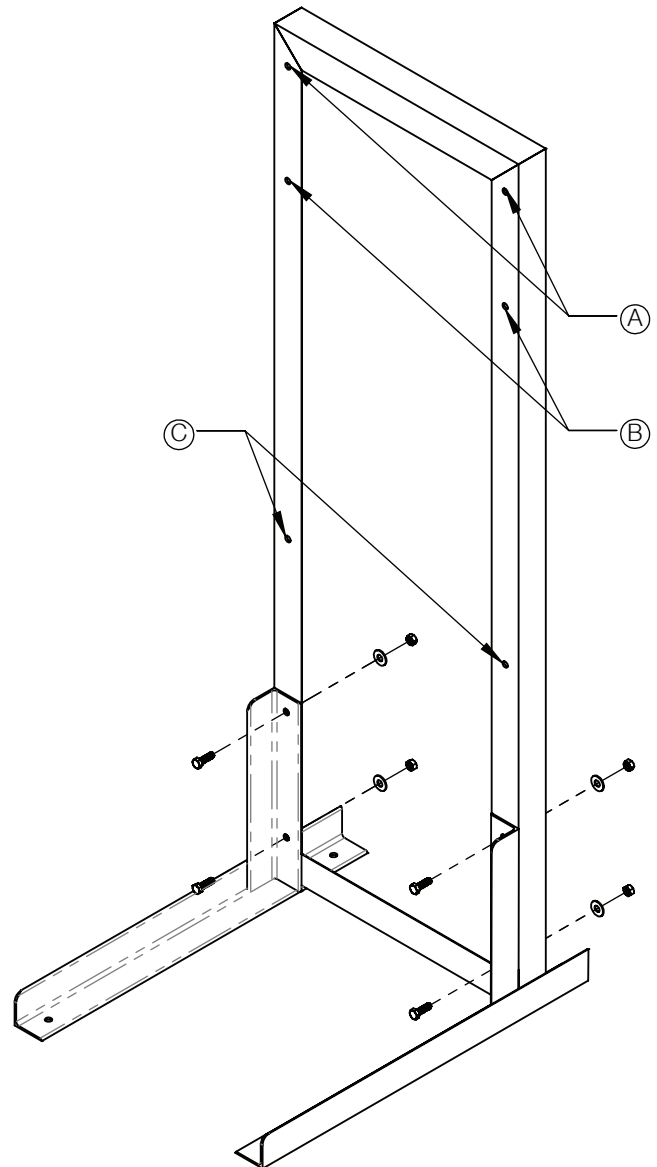

Figure 1: Floor Stand Assembly
1. Assemble floor stand as shown in Figure 1.
- a. If installing watertube boiler, use mounting holes **A** and **C** as shown in Figure 1.
- b. If installing firetube boiler, use mounting holes **B** and **C** as shown in Figure 1.